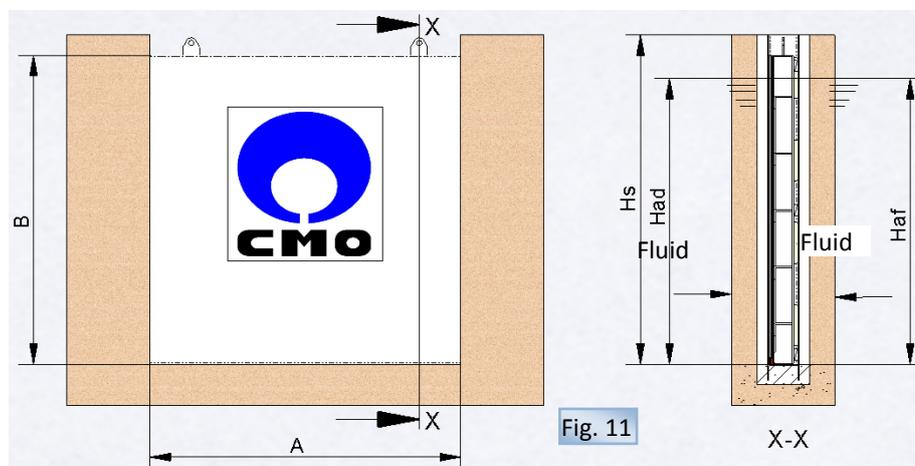

Fig. 11
In order to define an **AT** cofferdam gate, we need to know the width and height of the channel or conduit, the fluid direction and the fluid load on each side of the gate. It is also necessary to know the height of the floor (**Hs**) and whether it is a 3-sided seal (**fig. 11**) or 4-sided seal (**fig. 12**).
Below is a description of each level (**fig. 11 and 12**).
- **Level A:** This is used to define the width of the channel (fig 11) or conduit (fig. 12).
- **Level B:** This is used to define the height of the gate (fig 11) or conduit (fig. 12).